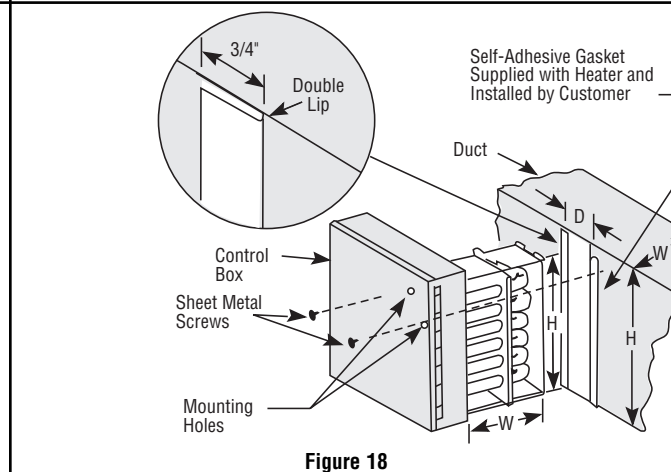

Figure 18
2. Increase D-1 1/2" slot to D by forming a 3/4" double lip on both sides of the duct opening. (See Figure 18).